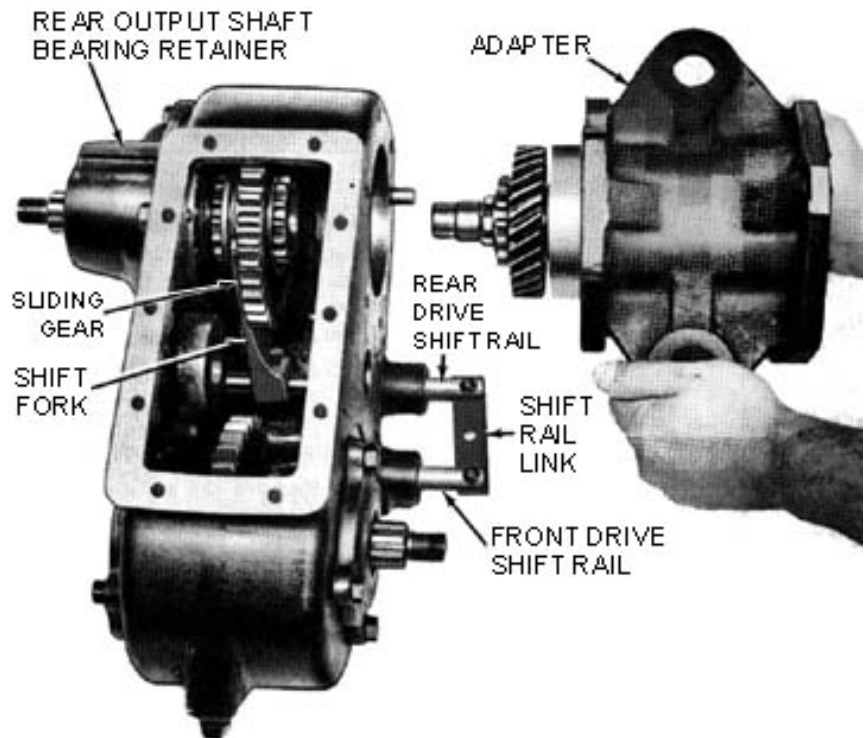

Figure 7 – Removing or Installing Adapter Housing
8. Remove the bolts securing the adapter housing to the case and remove the adapter as an assembly (Fig. 7).
11. Lift the rear output shaft sliding gear from the case (Fig. 7).
12. Remove the setscrew securing the rear shift fork to the shift fork to the shift rail. Then, remove the rear drive shift rail and fork from the case (Fig. 7).
15. Position the adapter housing assembly to the rear output shaft and case. Install the attaching bolts (Fig. 7)